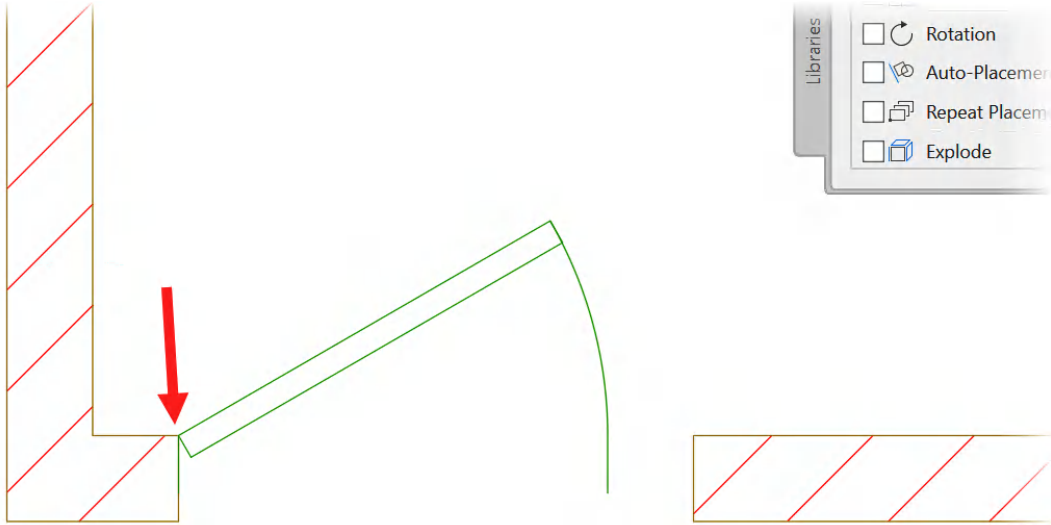

Figure 9.12: The Door – Metric dynamic block now in place
5. Once you have done this, you will find that the dynamic door block is now in place, as shown in *Figure 9.12*.